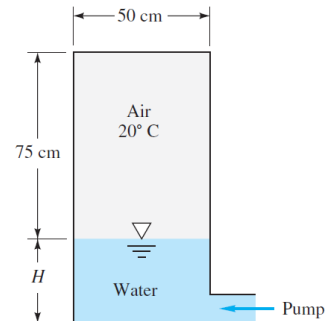

Fig. 2.2
- 2.2 The cylindrical tank in Fig. 2.2 is being filled with water at 20°C by a pump developing an exit pressure of 175 kPa. At the instant shown, the air pressure is 110 kPa and $H = 35$ cm. The pump stops when it can no longer raise the water pressure. For isothermal air compression, estimate H at that time.